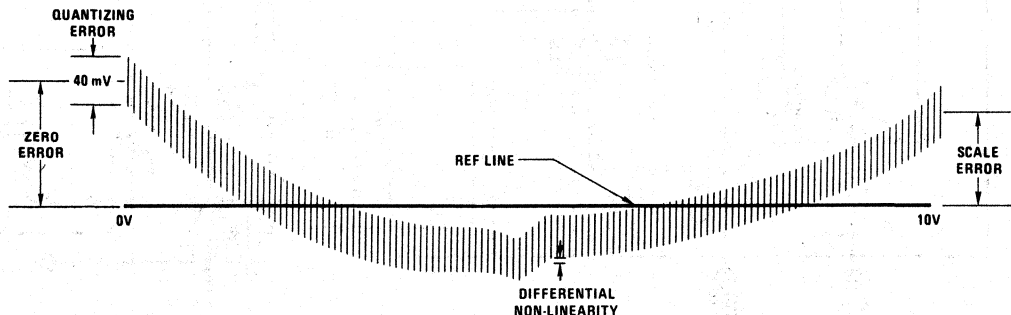

FIGURE 3. Typical Output Characteristic for the ADC0800
*Figure 3* shows a typical output characteristic for the ADC0800, an 8-bit A/D converter. The reference line is set by switching the vertical channel (Y-axis amplifier) to dc and triggering the ramp generator. The adjustment is made using the horizontal positioning. The vertical range should be set to 5V/division. The 50 mV/division shown is the effective range of the channel taking into the account that the difference amplifier has a gain of 100.
Non-linearity error can be defined in either of 2 ways. Shown in *Figure 3* is the "best straight line" definition for non-linearity. This is the more traditional definition for non-linearity and is the one use for the ADC0800 because of the inherent unidirectional nature of the error. A more conservative definition of "ideal straight line linearity" or more appropriately "total error" is twice that of the best straight line error. This linearity error is the maximum deviation from a straight line drawn between zero and full scale. The ADC1210 and ADC1211, 12-bit and 10-bit A/D converters, use this definition of non-linearity because the deviation can be in either direction.